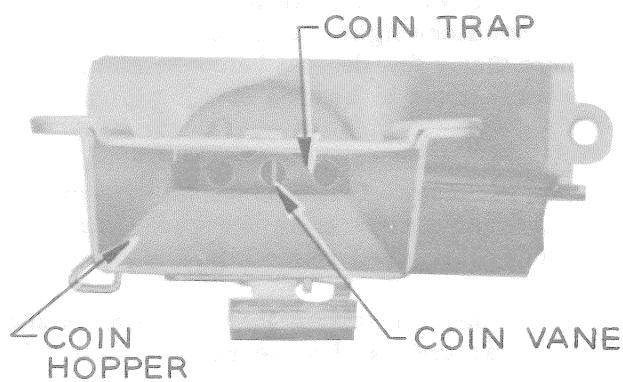

Fig. 62—Position of Vane When Relay is Centered
6.118 When mounting relay, center it so that with operating arm in its normal vertical position, fork slot engages vane stem and holds coin vane in a vertical position. Full thickness of coin vane is visible in the center hole of coin trap (Fig. 62). If relay cannot be centered, replace relay. If replacing relay cannot be centered, replace coin collector.